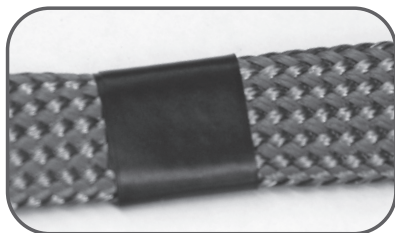

FIGURE 1
- STEP 2:** Use electrical tape and tape over mark all the way around the sleeving (Fig 1)